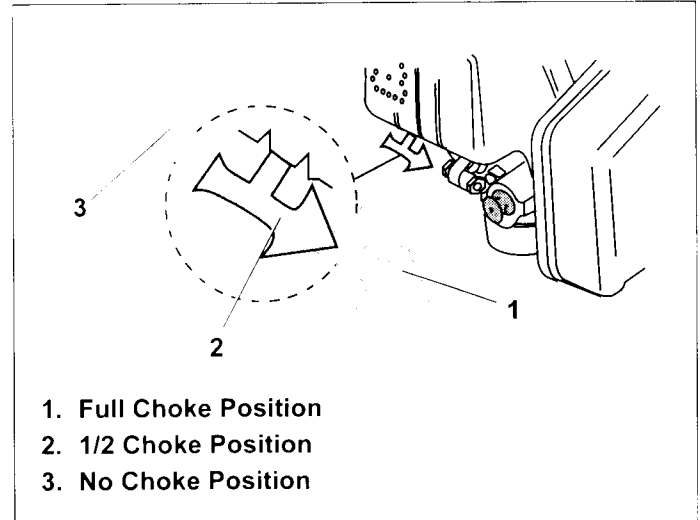

Figure 16. Engine Choke Positions
- Move Choke Control to "FULL CHOKE" position. See Figure 16.
If restarting warm engine after a short shutdown, move Choke Control to "NO CHOKE" position. See Figure 16.